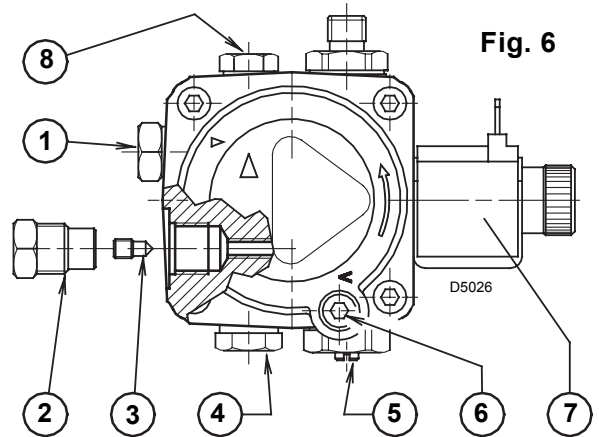
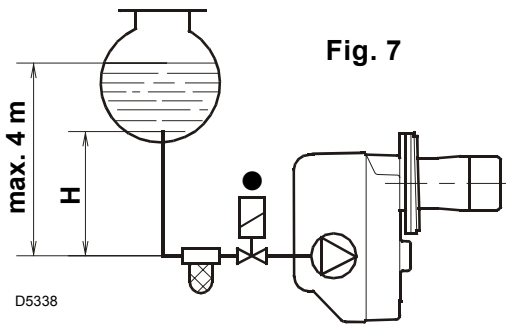

Fig. 6
Fig. 7
- The pump is designed to allow working with two pipes. In order to obtain one pipe working it is necessary to unscrew the return plug (2), remove the by-pass screw (3) and then screw again the plug (2). (See fig. 6).
On the system in fig. 7 it is sufficient to loosen the suction gauge connection (5, fig. 6) and wait until oil flows out.
To change it act on pump pressure adjust screw (4, fig. 6, page 4).